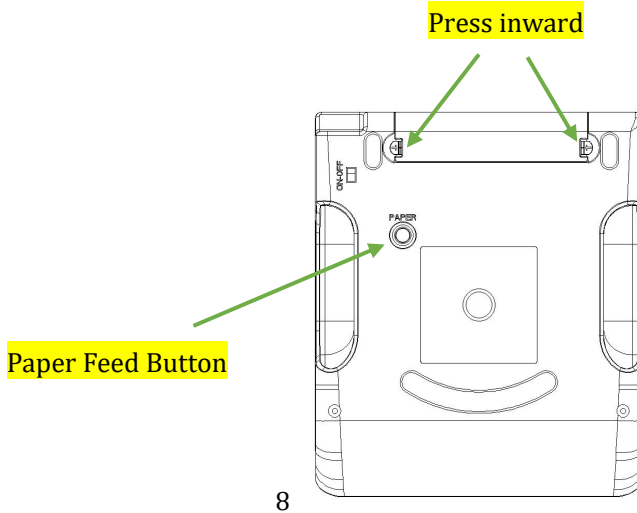

Figure 22: Device flipping
- Gently pull the printer out from the compartment. Click the "**Feed**" button on the "**Historical Record Query**" Interface as shown in **Figure 21** or press the "**Paper Feed**" button at the bottom of the printer as shown in **Figure 22** to activate the printer's automatic paper feeding mode.
- ① Ensure that the device is powered on. Flip the machine and remove the left side printer compartment cover as shown in **Figure 22**.
⑤ Click the "**Feed**" button on the "**Historical Record Query Interface**" as shown in **Figure 21**, or press the "**Paper Feed**" Button located at the bottom of the printer as depicted in **Figure 22**, to activate the automatic paper feeding mode of the printer.;
⑦Click on the "**Feed**" button on the "**Historical Record Query**" interface as shown in **Figure 21** or click on the mechanical "**Paper Feed**" button at the bottom of the printer as shown in **Figure 22** to deactivate the automatic paper feeding mode. Then, push the printer back into the printer compartment, close the printer cover, and click on the "**Feed**" button on the "**Historical Record Query**" interface in **Figure 21** to check if the printer is ejecting paper correctly and if the printed data is complete and accurate.